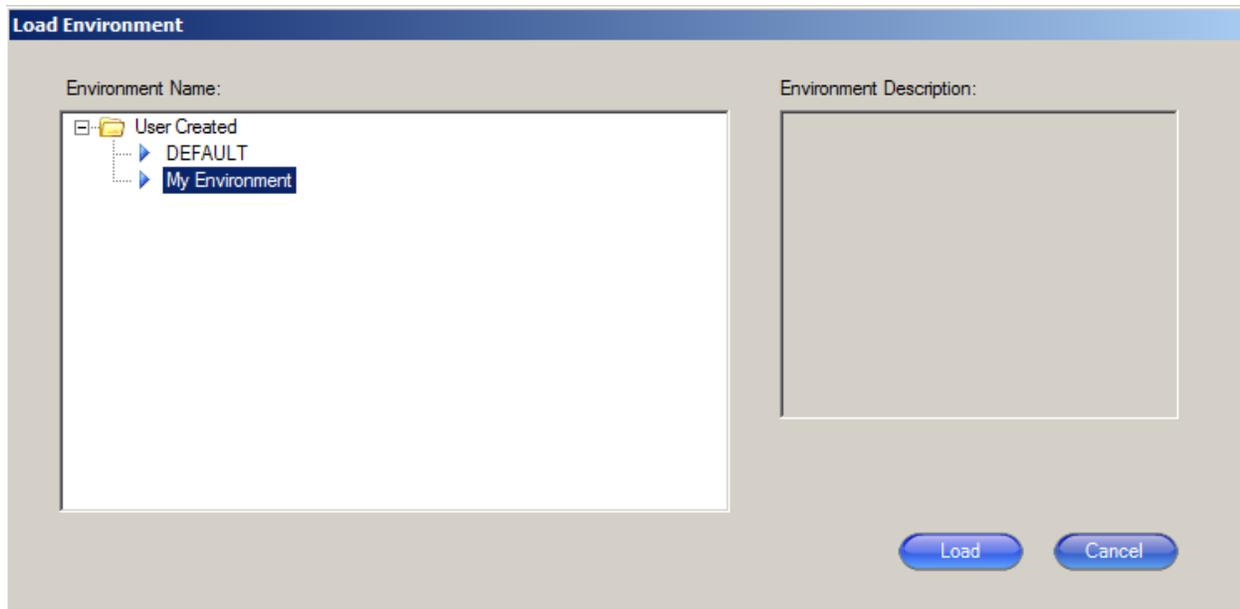

Figure 3-29: Load Environment Window
5. The *Load Environment* window displays, as shown in Figure 3-29.